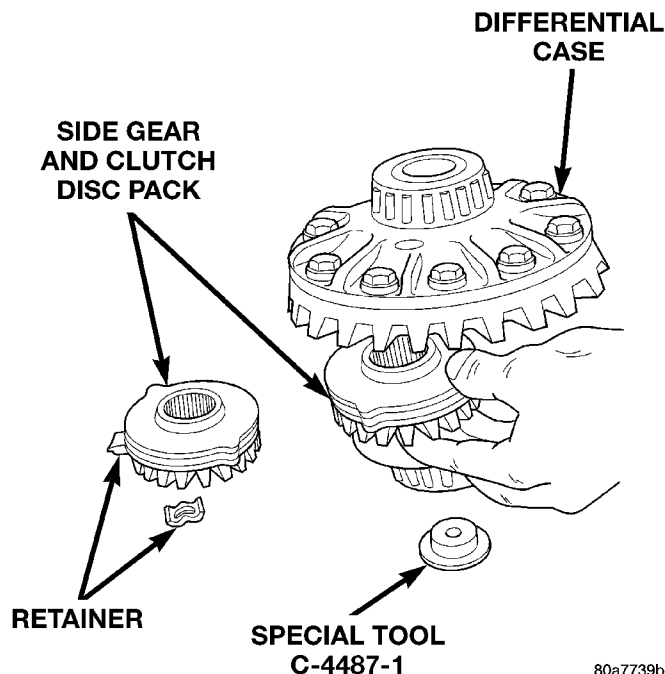

Fig. 63 Side Gear & Clutch Disc Removal
(15) Remove Forcing Screw C-4487-2, Step Plate C-4487-1, and Threaded Adapter C-4487-3.
(16) Remove top side gear, clutch pack retainer, and clutch pack. Keep plates in correct order during removal (Fig. 63).